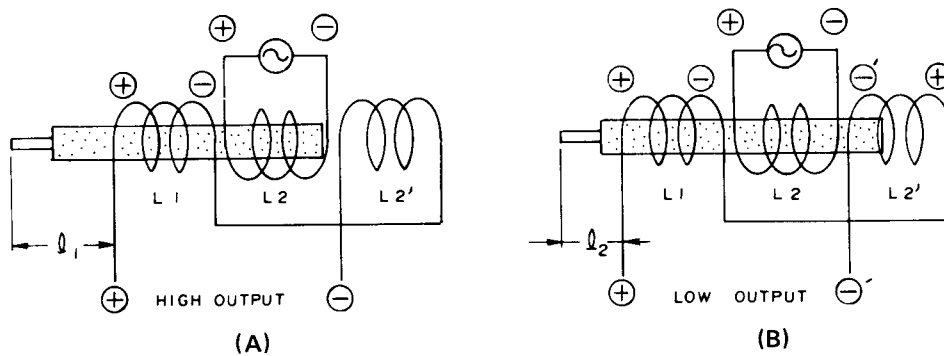

Fig. 3-58 Output vs core position
When the core is completely pulled out of L2' as shown in Figure 3-58 (A), only L1 and L2 are coupled, and current passes freely through L2'. Consequently the maximum output is obtained at the output terminals.
When the core is in coil L2' as shown in Figure 3-58 (B), L1 is coupled with L2' together with L2. This results in a decreased output due to cancellation effects, which are proportional to the degree of coupling.